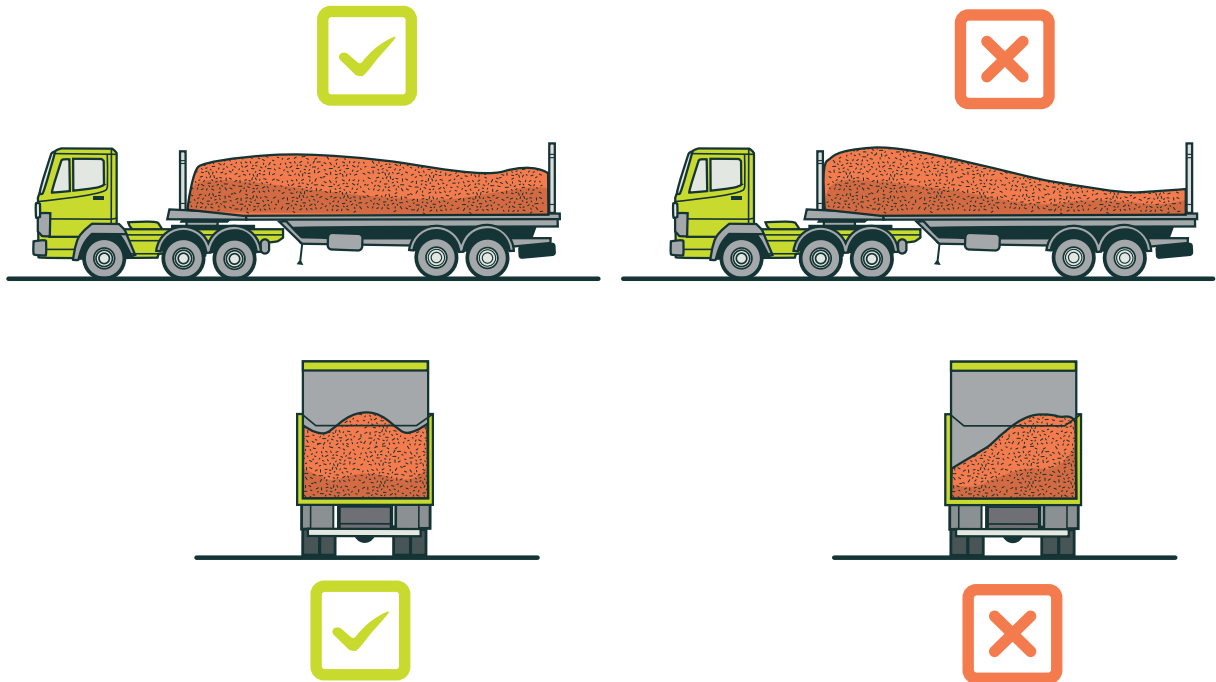

FIGURE 7: Balanced and unbalanced load distribution
- If the load has slipped too far forward it can overload the tipping gear. If the load has shifted sideways or backwards, the vehicle may topple over (see Figure 7).